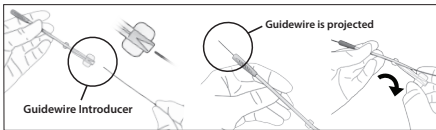
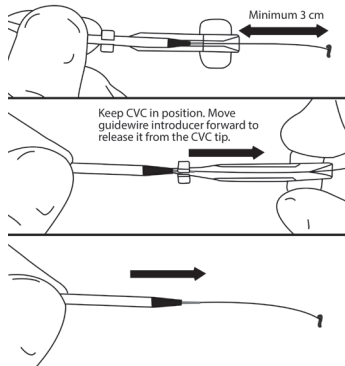

Figure 5
Figure 7
16. Use tissue dilator to enlarge tissue tract to the vein as required. Follow the angle of the guidewire slowly through the skin. Where guidewire introducer is attached to tip of dilator, insert proximal end of the guidewire along the groove of guidewire introducer into dilator. Confirm guidewire passes through dilator (refer to Figure 5). Remove the guidewire introducer similar as described for catheter on Figure 7.
17. Thread tip of stylet over guidewire. Sufficient guidewire length must remain exposed at hub end of catheter to maintain a firm grip on guidewire. Use guidewire introducer similar as described for dilator on Figure 5.
Guidewire Introducer removal (refer to Figure 7):